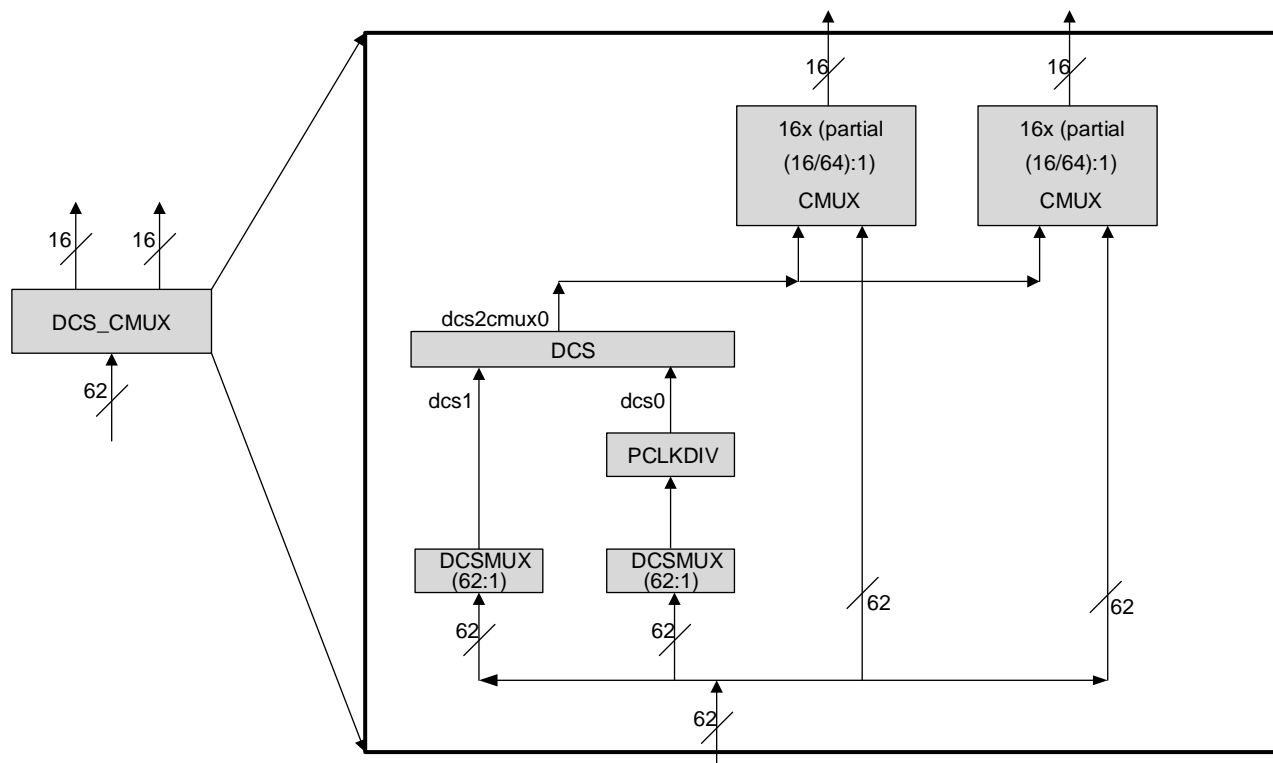

Figure 2.8. DCS_CMUX Diagram
The PCLKDIV supports $\div 2$, $\div 4$, $\div 8$, $\div 16$, $\div 32$, $\div 64$, $\div 128$, and $\div 1$ (bypass) operation. The PCLKDIV is fed from a DCSMUX within the DCS_CMUX block. The clock divider output drives one input of the DCS Dynamic Clock Select within the DSC_CMUX block. The Reset (RST) control signal is asynchronously and forces all outputs to low. The divider output starts at next cycle after the reset is synchronously released. The PCLKDIV is shown in Figure 2.8.
All clock sources are selected and combined for primary clock routing through the Dynamic Clock Selector Center Multiplexor logic (DCS_CMUX). There are one (1) DCS_CMUX blocks per device. Each DCS_CMUX block contains two (2) DCSMUX blocks, one (1) PCLKDIV, one (1) DCS block, and two (2) CMUX blocks. See Figure 2.8 for a representative DCS_CMUX block diagram.